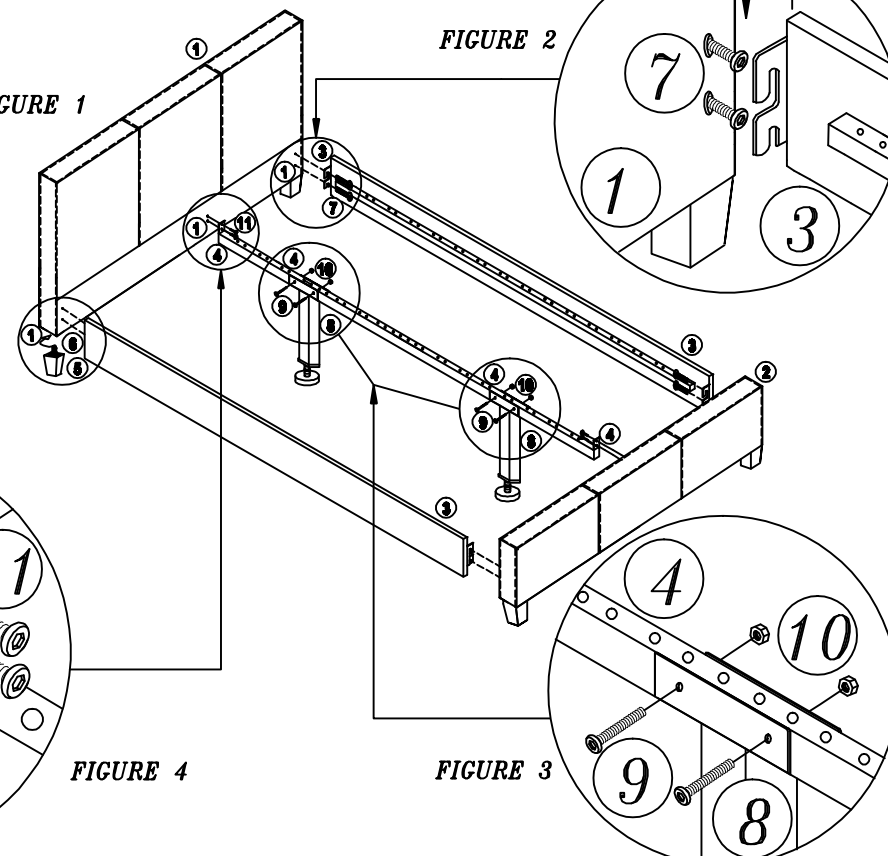

FIGURE 3
- Step 3** • Secure support leg (8) on center support rail (4).
• Align support leg (8) with holes on Center support rail (4) and secure with screw (9) and hex nut (10) use Allen wrench (15). SEE FIGURE 3